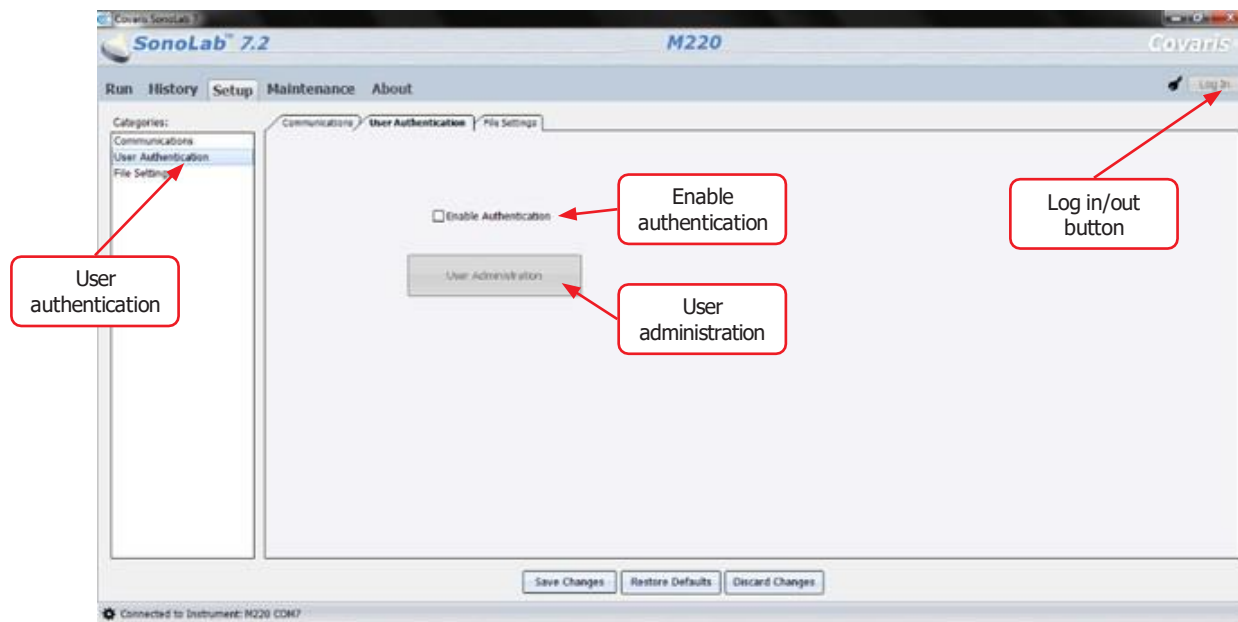

Figure 6.5 The User Authentication Tab
By selecting the User Authentication tab or category (See *Figure 6.5*), user can establish 3 levels of users and identify the user by means of a log in/out format.
- Click on the Enable Authentication (See *Figure 6.5*) check box. Enter user name "admin" and password "Sonolab". Click OK to log in. Once logged in, an Administrator may change this password or create an alternate administrator-level user.
- Click the Log In button (See *Figure 6.5*). Enter the username and password provided by Administrator.
- Click the "User Administration" button (See *Figure 6.5*)